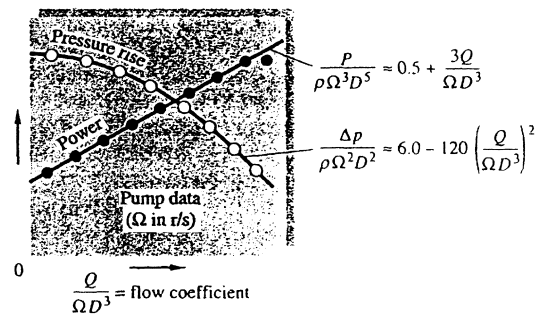

Fig. P5.61
**5.87** In Prob. 5.62 it was difficult to solve for  $\Omega$  because it appeared in both power and flow coefficients. Rescale the problem, using the data of Fig. P5.61, to make a plot of dimensionless power versus dimensionless rotation speed. Enter this plot directly to solve Prob. 5.62 for  $\Omega$ .
The plot is shown below, as computed from the expressions in Fig. P5.61.
**5.88** Modify Prob. 5.62 as follows: Let  $\Omega = 32 \text{ r/s}$  and  $Q = 24 \text{ m}^3/\text{h}$  for a geometrically similar pump. What is the maximum diameter if the power is not to exceed  $340 \text{ W}$ ? Solve this problem by rescaling the data of Fig. P5.61 to make a plot of dimensionless power versus dimensionless diameter. Enter this plot directly to find the desired diameter.